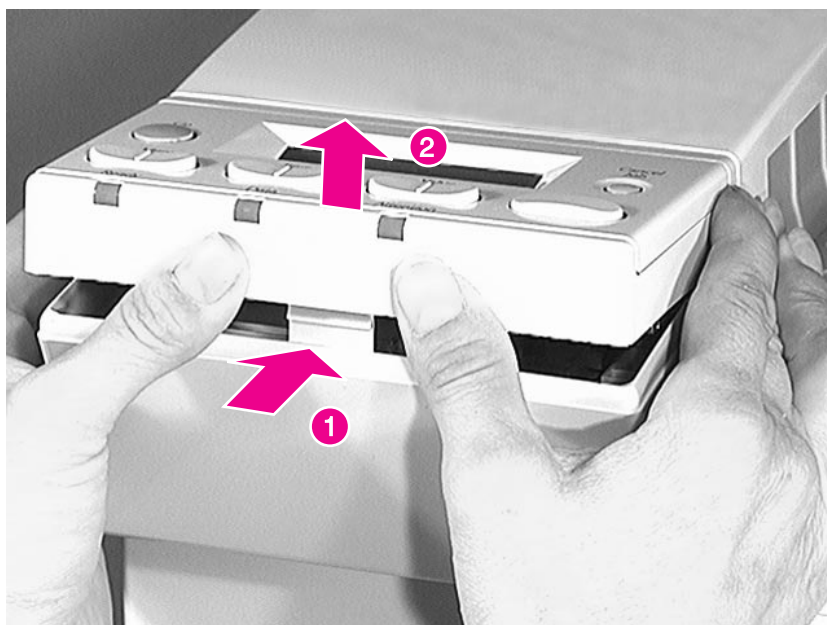
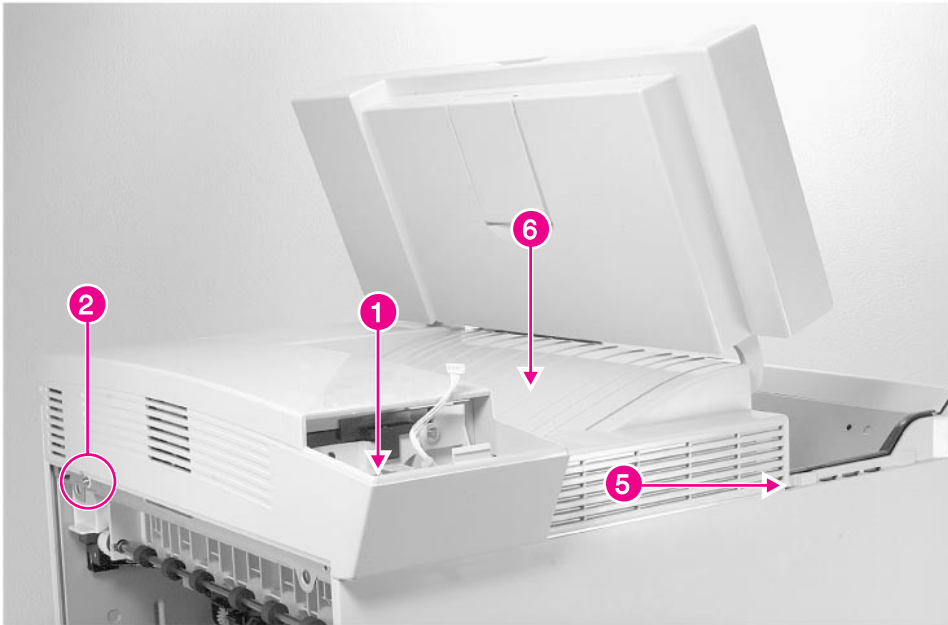

Figure 6-3 Control Panel (1 of 2)
Figure 6-10 **Top Cover (1 of 2)**
- 1 While pushing in on the center area (figure 6-3, callout), lift up on the forward edge of the control panel to release the plastic retaining tab.
- 1** Remove the Control Panel (see figure 6-3 on page 163), then remove 1 screw (figure 6-10, callout 1).
- 2** Open the Diverter Assembly access door, and remove 1 screw (figure 6-10, callout 2).
- 4** Lift (and hold) the top cover door up, and carefully pull out on the cover to release the retaining tab (figure 6-10, callout 5).
- 5** Hold the Standard Output Bin (figure 6-10, callout 6) down while carefully and slowly lifting the top cover straight up until it clears the Standard Output Bin Full sensor flag and the Delivery Unit.
- 1 Hold the top cover door up and the Standard Output Bin (figure 6-10, callout 6) down while lowering the cover into position.
- Top Cover (see figure 6-10 on page 171)
- 2 Remove the top cover (see figure 6-10 on page 171).